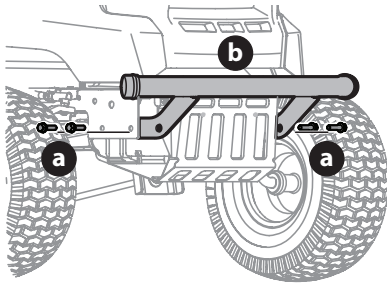

Fig. 15
1. Remove the four hex screws (a) from the bumper (b) (Fig. 15).
2. Position the bumper brackets to the inside of the tractor's frame and secure it in place with the four hex screws (a) (Fig. 15).